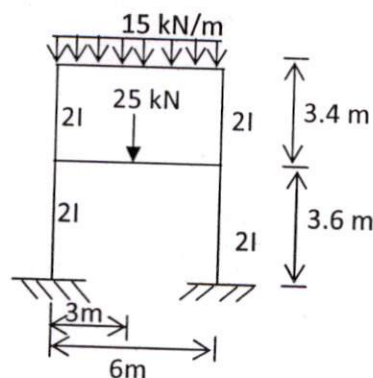

Fig.1
3) Analyse the portal frame shown in Fig.1, using Moment Distribution method. Draw bending moment diagram and elastic curve.